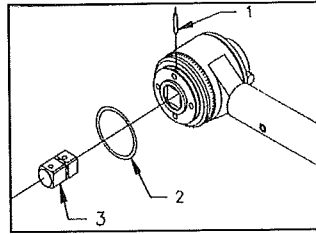

Figure 1. Replacing Output Square Drive Assembly
- 8.1 Remove the O-Ring that is on the face of the square drive carrier (Fig. 1 Item 2).
- 8.3 Insert the new square drive assembly (Fig. 1 Item 3), making certain that the hole in the new square drive assembly lines up with the hole in the square drive carrier.
- 8.4 Insert dowel pin (Fig. 1 Item 1) in square drive carrier, insuring that the pin engages the hole in the replacement square drive.